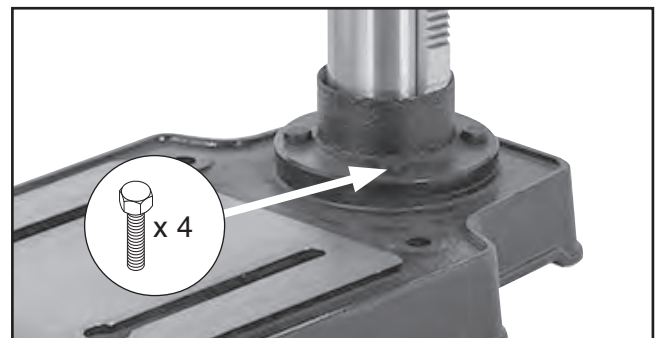

Figure 9. Column attached to base.
1. Attach column to base using (4) M8-1.25 x 20 hex bolts (see **Figure 9**).